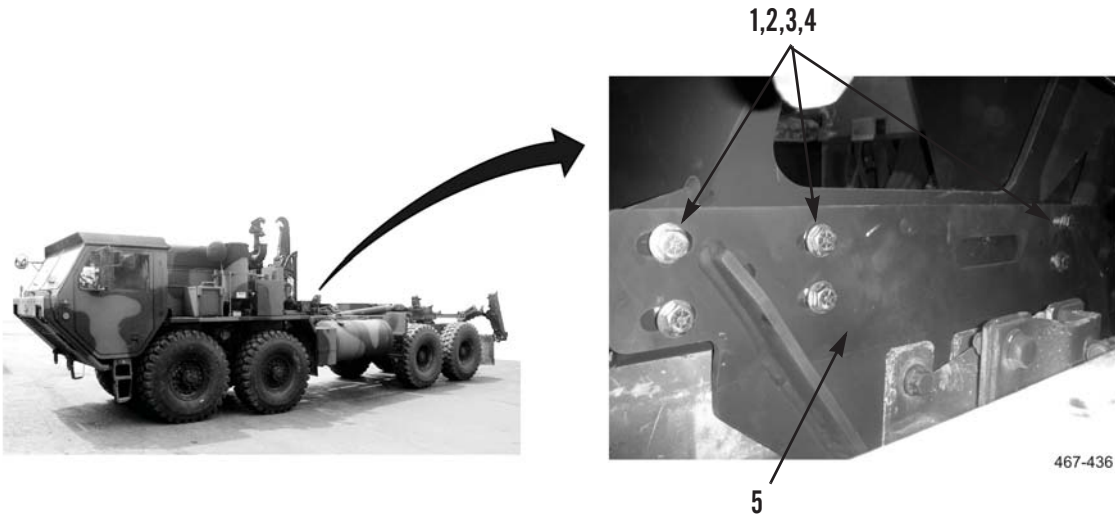

Figure 6. PLS Stowage Assembly Bracket.
5. Remove 12 nuts (Figure 6, Item 4), washers (Figure 6, Item 3), bolts (Figure 6, Item 1), and washers (Figure 6, Item 2) from right and left stowage assembly brackets (Figure 6, Item 5).